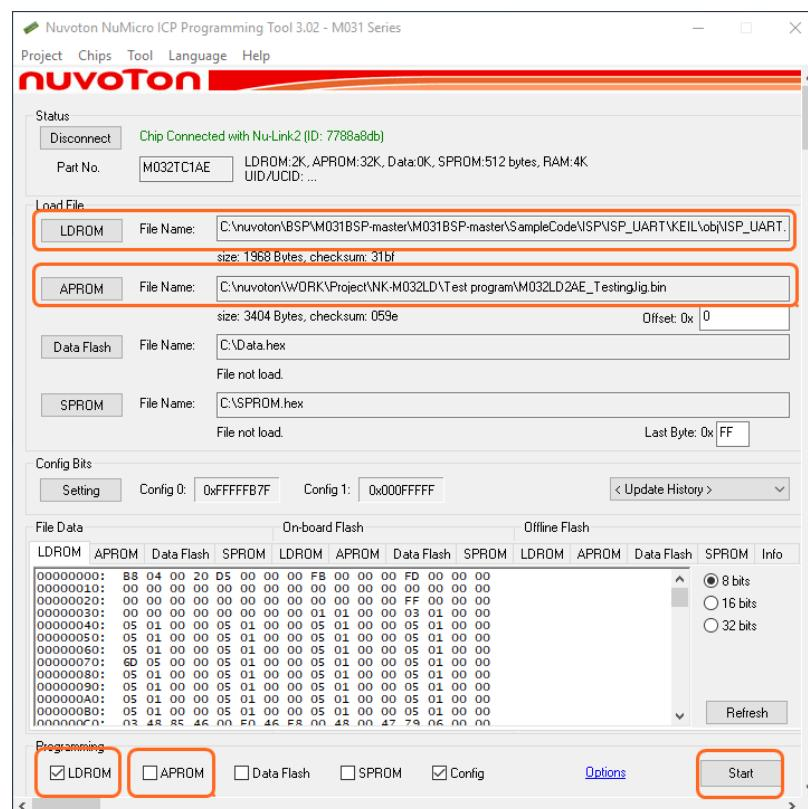

Figure 5.2-7 Programming File Selection Window
- (11) As shown in Figure 5.2-7, select the ".bin" file you want to programming APROM and LDROM, and tick the memory location.
- (12) Click the Start button to start programming.